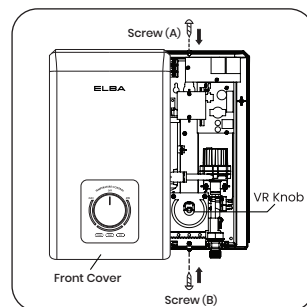

Fig. 8
3. Secure the front cover with the screw (A) & screw (B) as shown in the figure below **(Fig. 8)**.